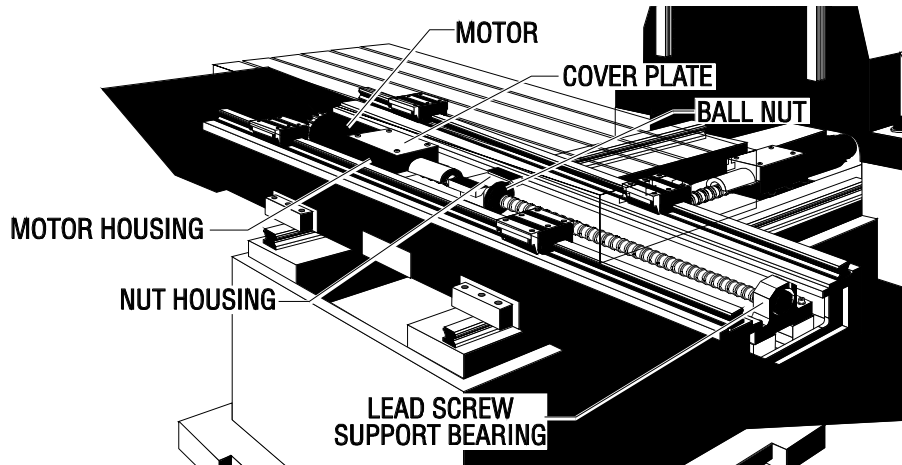

Fig. 10-3 Install lead screw from right side.
3. Insert the lead screw through the nut housing and motor housing (See Fig. 10-3), taking care not to make contact with the screw threads, causing possible damage.